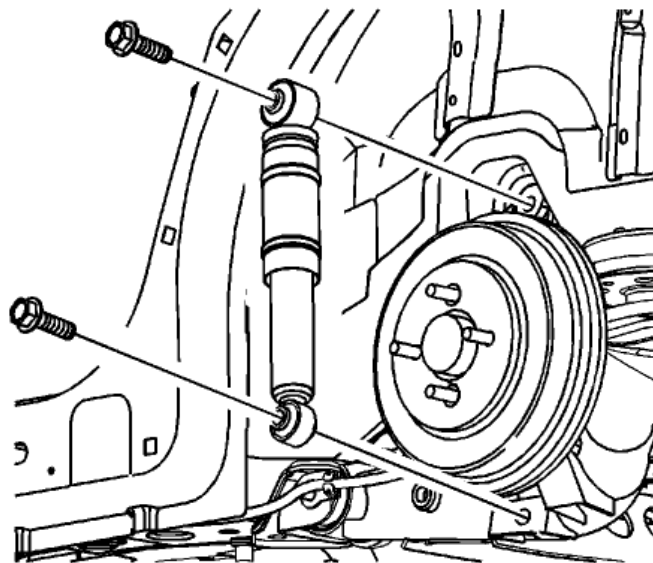

fig. 3
4. Unbolt the lower shock mounting bolt (fig. 3).
7. Unbolt the upper shock mounting bolt and remove the shock (fig. 3).